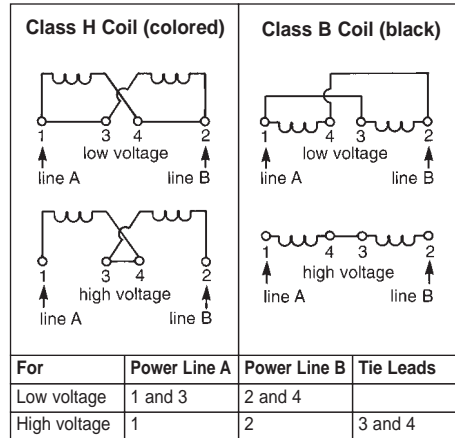

Figure 2
1. Dual voltage coils may be factory pre-connected for high voltage with wire nuts. Checking coil connection is suggested. Four lead style are marked on leads for connection per Figure 2. Two unmarked leads mean preconnection made for high voltage. Reconnect coil for appropriate voltage as shown in Figure 2. Bring out line leads.
2. On single voltage coils, connect coil to any two leads on single or three-phase motors of the same voltage as the brake. Refer to brake nameplate and coil number for correct voltage and frequency. See Figure 2 for dual voltage coil connection and connect to any two leads of single or three-phase motor of the same voltage. The brake can also be wired to external switch contacts providing proper voltage other than that used to control the motor. Normally, the motor and brake contacts are interlocked.